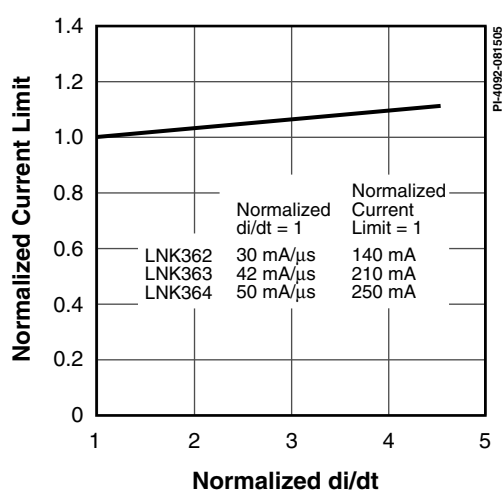

Figure 14. Current Limit vs. di/dt.
- E. For current limit at other di/dt values, refer to Figure 14.